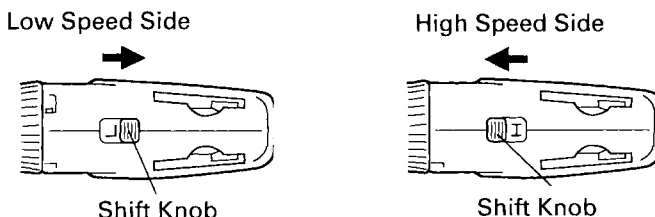

Fig. 13
7. High speed–Low speed changeover (Fig. 13)
- **To ensure the engagement of the gear, push the shift knob to the end. (Fig. 13)**